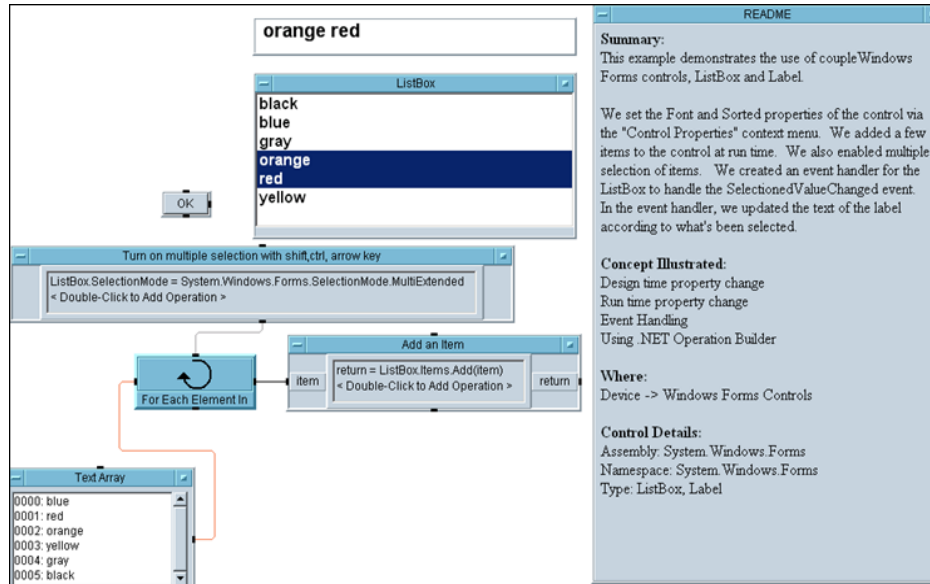

Figure 4-8 Expanded ListBox with two of six colors selected
- 4 Increase the Text Array via its Property box to six and add two more colors to the Text Array box. See Figure 4-8.